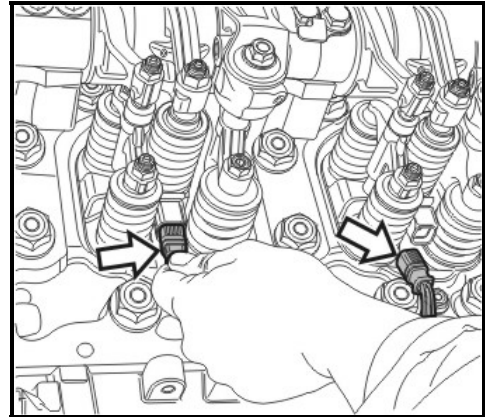

FIGURE 16
3. Connect the harness to the unit injectors (fig. 16). Push the connector until a distinct “click” is heard to ensure the connector is fully engaged.